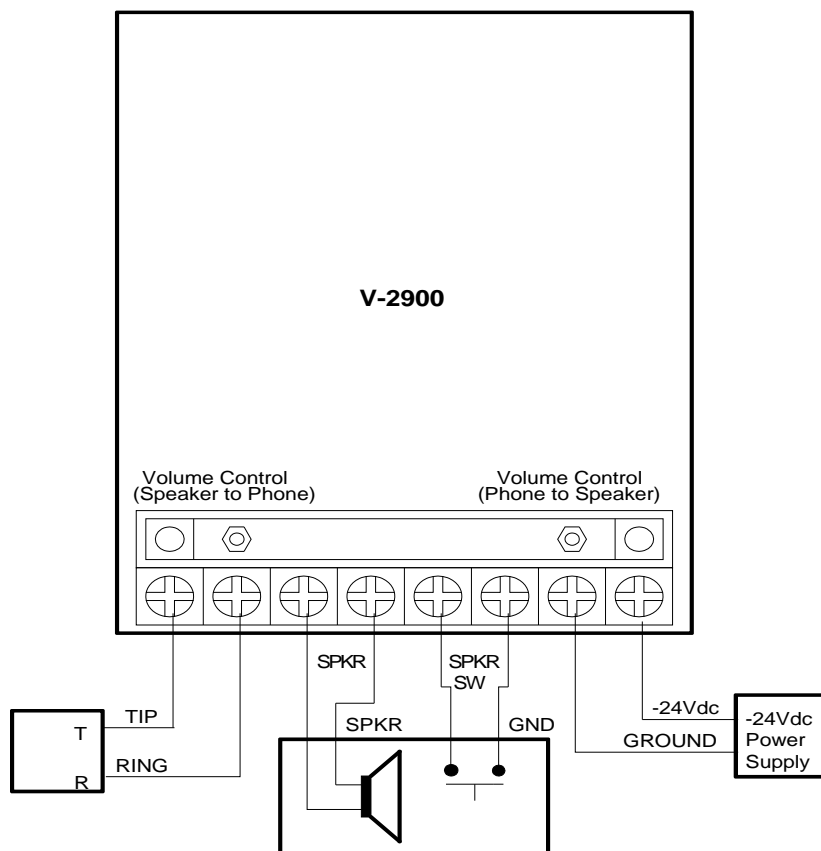

FIGURE 2 - CONNECTIONS
5. Connect door pushbutton connections (momentary closure) to the second screw terminal labeled GROUND and SPKR SW on the V-2900. (See Figure 2).
Two volume controls are used to adjust the phone to speaker volume and speaker to phone volume. (See Figure 2 for location).